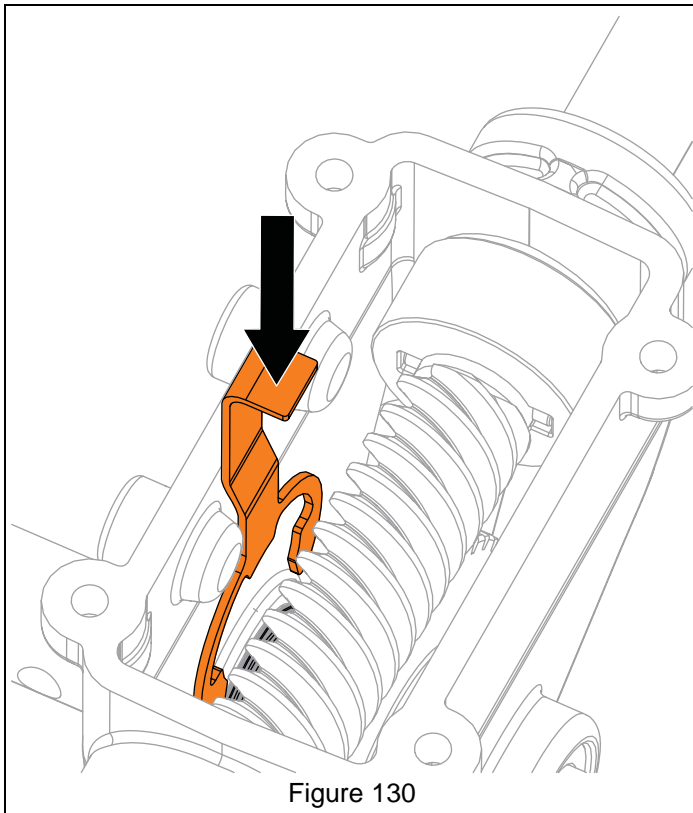

Figure 130
19. Reinstall bushing retainer into flange bushing groove. See Figure 130.